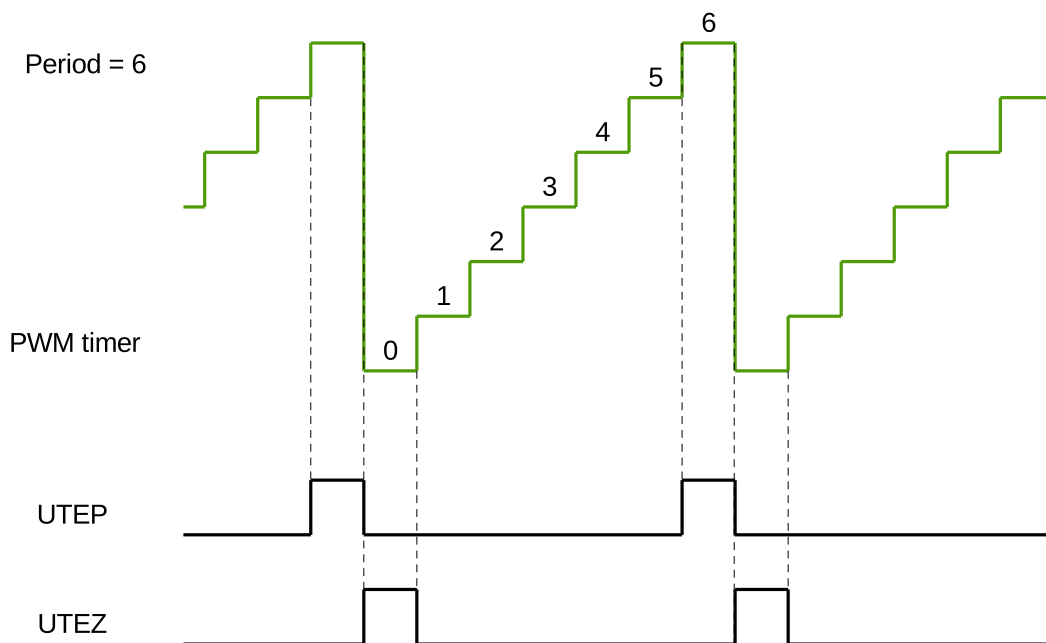

Figure 36.3-11. UTEP and UTEZ Generation in Count-Up Mode
Figures 36.3-11 to 36.3-13 show the timing waveforms of U/DTEP and U/DTEZ.
1. UTEP and UTEZ do not happen simultaneously. When the PWM timer is in count-up mode, UTEP will always happen one cycle earlier than UTEZ, as demonstrated in Figure 36.3-11, so their action on PWM signals will not interrupt each other. When the PWM timer is in count-up-down mode, UTEP will not occur.